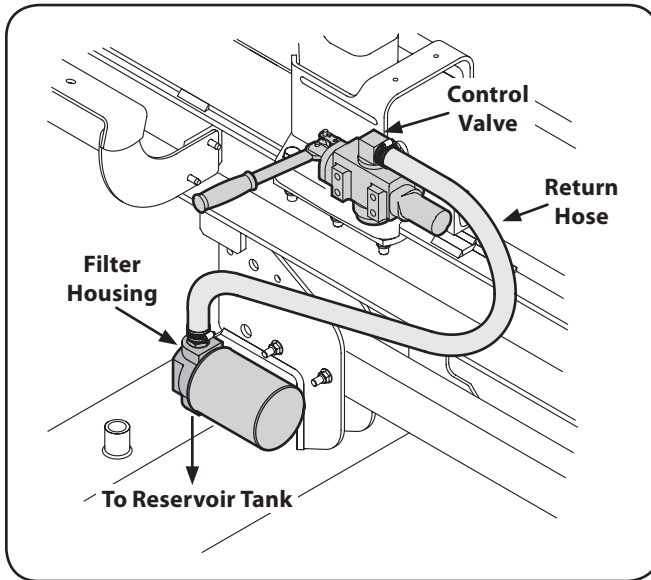

Figure 3-9
3. Attach the end of the hose to the fitting on top of the filter. Place the hose clamp at the base of the fitting, tighten securely and cut the zip tie securing hose guard. See Fig. 3-9.